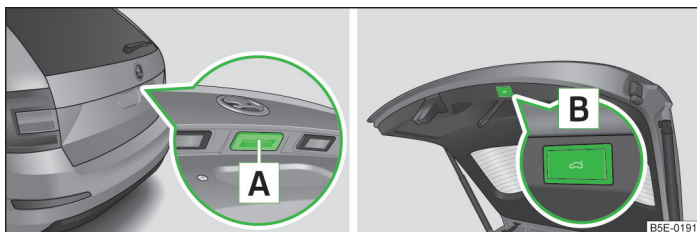

Fig. 21 Lid operation
- With the handle **A** on the outer part of the lid » Fig. 21.
- With the button **B** on the inner part of the lid » Fig. 21.
- » Press and hold the button  » Fig. 21 on page 39 for longer than 3 seconds.